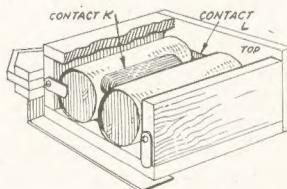

Fig. 1—Batteries in box
Proceeding with the stand or 'box', we first look at the sectional diagram Fig. 1. Note how the battery lies in the 'box', how it is held in place by two movable brass lugs, and how the contacts are arranged. The sides, ends and top of the box, and also the ornamental
Later on, when the side foot pieces are glued on, a round-head screw about $\frac{1}{2}$ in. or so long will be run in, round which again a short loop of flex is bound and allowed to project into the box to make contact with the side brass plate on the battery at (K), Fig. 1. The switch handle (N) on the pattern sheet will be put over the screw (J) at the same time the wire is threaded through at this place.
At (M) on the pattern sheet the outline of the lugs and method of fixing them are shown, their position at the base of the box being given at Fig. 1. These should work stiffly about the screws and so hold the battery securely in place. Each of the side feet consist of two pieces (E) with one piece (D) between them. See the back straight edges are uniformly flat and lie evenly to the box surfaces indicated by the dotted lines on the patterns.
Round the base of the box can be glued thin pieces of wood about $\frac{1}{8}$ in. wide to fill in the gap at the bottom if desired. In Fig. 1 part only of these strips is shown.